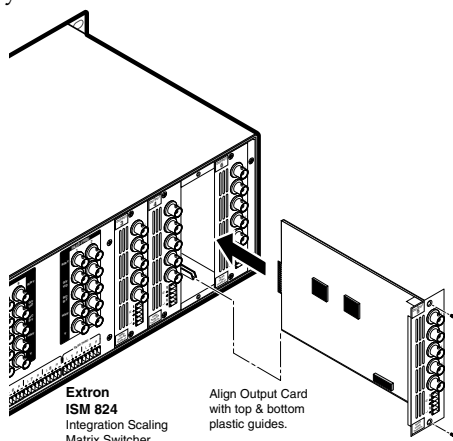

Figure 2-11 — Optional output card installation
4. With the card upright, align the front (non connector end) of the card with the top and bottom plastic guides in the ISM 824 (see figure 2-11). Slide the card in carefully, ensuring that it remains within the guides, and push it home firmly.